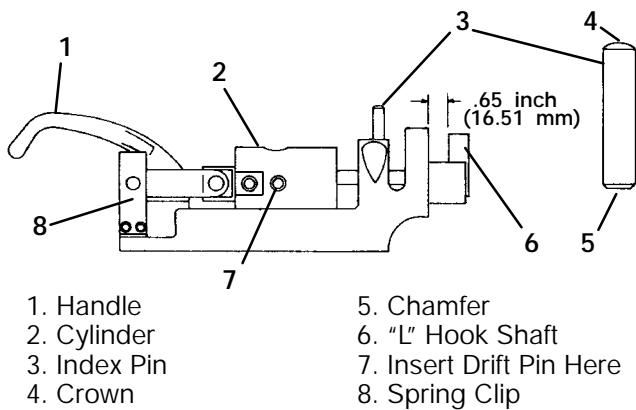

Figure 4-17. Clamping Device and Index Pin
a. Replacing Index Pin (See Figure 4-17)